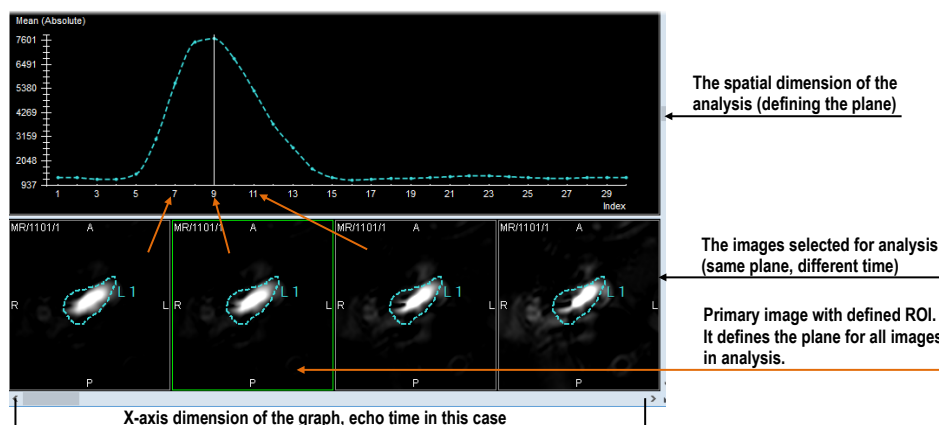

**Figure 364 – Analysis calculated on the MR9 – MR14 series, ROIs defined on the primary image**
- **Single-dimensional image series** - the images of the same spatial positions across all the available series within the study are searched for (see Figure 364). This, for example, allows to evaluate the time course of the saturation of the contrast agent on a study composed of multiple image series, each of them scanned at a different time (though with the images on the same positions, see Figure 364). The navigation among the images in the analysis is performed using the series number when the quantitative analysis is created across series; when the quantitative analysis is created within a single image series, the slice number is used for navigation.